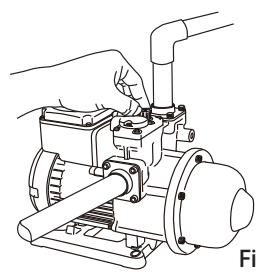

Fig. 3
1. Before starting, the pump must be primed. Please follow the procedure as shown in Fig 3.